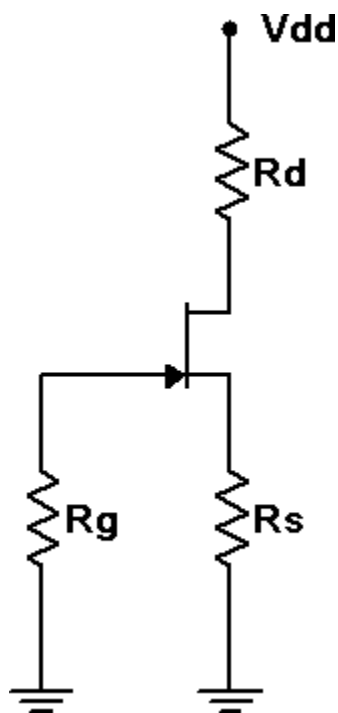

Figure 2
3. Consider the circuit of Figure 2 using $V_{DD} = 15$ volts, $R_g = 330\ k\Omega$, $R_d = 4.7\ k\Omega$, and $R_s = 2.2\ k\Omega$. Using the values of Table 1, calculate and record the expected voltages for JFET 1 in Table 2. Also record the expected drain current in Table 3.
4. Build the circuit of Figure 2 using $V_{DD} = 15$ volts, $R_g = 330\ k\Omega$, $R_d = 4.7\ k\Omega$, and $R_s = 2.2\ k\Omega$. Measure and record the voltages for JFET 1 in Table 2. Based on V_D , compute and record the experimental drain current in Table 3. Also determine and record the drain current deviation.